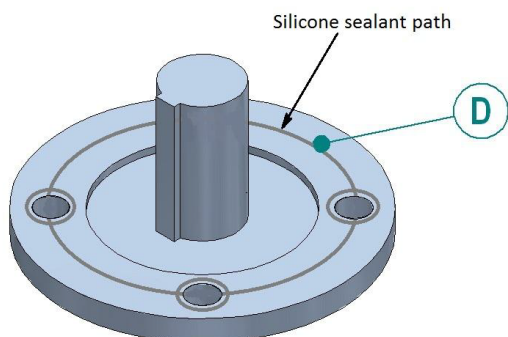
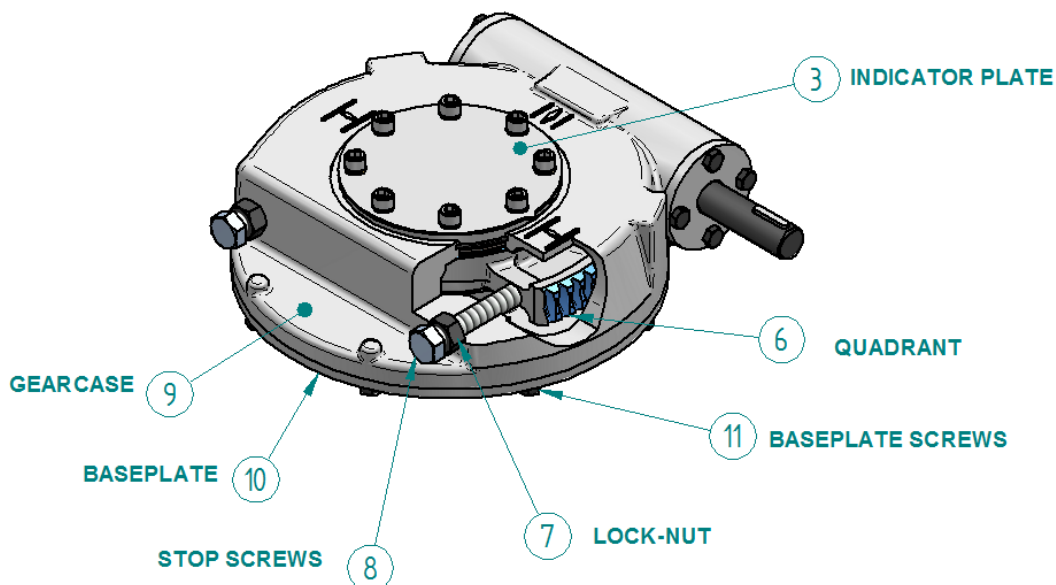
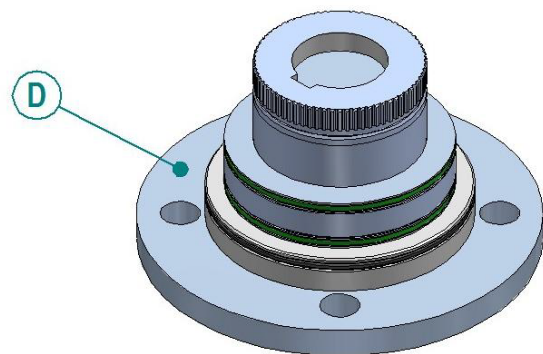

Figure 5: Valve Mounting Flange
Figure 6: Setting stop bolts
Figure 11: Valve Stem Assembled
2. Apply a ring of silicone sealant around the mounting face of the flange, the ring should be at the same radius from the shaft as the bolt holes. Apply small rings of sealant around each of the bolt holes to completely seal the faces (see Figure 5).
Important Note for Figure 5
D: It is recommended that the flanges be sealed on assembly with silicon sealant. The face marked „D“ on Figure 5 shows where sealant can be applied to the valve mounting flange
3. Align gearbox baseplate flange square and parallel to valve flange (see Figure 5), It is recommended that flanges be sealed on assembly with silicon sealant. Grease the output sleeve and the valve shaft.
The gearbox stops are factory set but require adjusting for optimum valve performance. If an actuator is to be used to operate the gearbox, then the mating faces between the gearbox input flange and the actuator output must be sealed prior to assembly using a ring of silicone sealant applied at the same radius as the bolt holes, a small ring of sealant should be applied around each bolt hole to completely seal the faces (see Figure 5). The actuator limit and torque switch settings should be set up according to the actuator manufacturer's recommendations. The gearbox open & closed stop screws should then be set. (see Figure 6).
WARNING: We recommend fitting a nut (19) and washer (18) fixture into the base of the gearbox as demonstrated in Fig 6 and Fig 6A. Note that the washers must overlap the spigot ring (15). This will stop the output sleeve assembly from becoming detached from the main body. The bolts and washers are not supplied by Rotork Gears.
2. Align combination gearbox baseplate flange square and parallel to valve flange. It is recommended that flanges be sealed on assembly with silicon sealant (see Figure 5).
7. When an actuator is being installed to the input of the gearbox, it is important to apply a ring of silicone sealant between the mating faces prior to assembly (see Figure 5).
2. It is recommended that flanges be sealed on assembly with silicon sealant. The face marked 'D' on Figure 11 and Figure 5 shows where sealant can be applied.